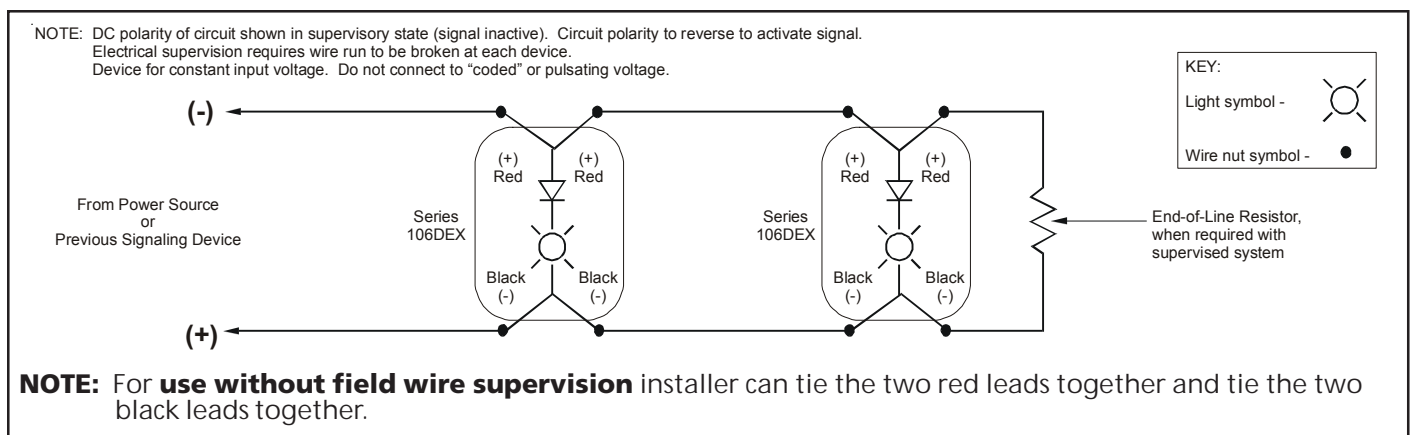

Figure 4. Wiring Diagram
5. Wire in accordance with Figures 4 and 5. The positive (+) terminal is gold colored and the negative (-) terminal is silver colored.